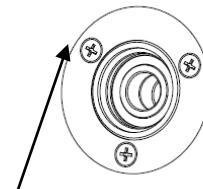

Figure 4
5. With one hand flat on blade guard, turn the black blade guard knob (located, on the back of the slicer, behind blade) counterclockwise until the blade guard is released. (Fig. 4)
6. Remove the three phillips head screws that hold blade. (Fig. 4)